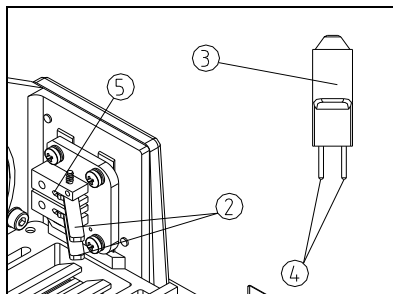

Fig.2
- (2) Open the bulb lock piece②, and take the bulb③ with clean glove or soft tissue, insert the bulb pins④ into the jack on the bulb holder⑤, the bulb should be vertical after assembly. (See Fig. 2)
- (3) Loose the bulb lock piece②, lock the bulb and install the cover group.